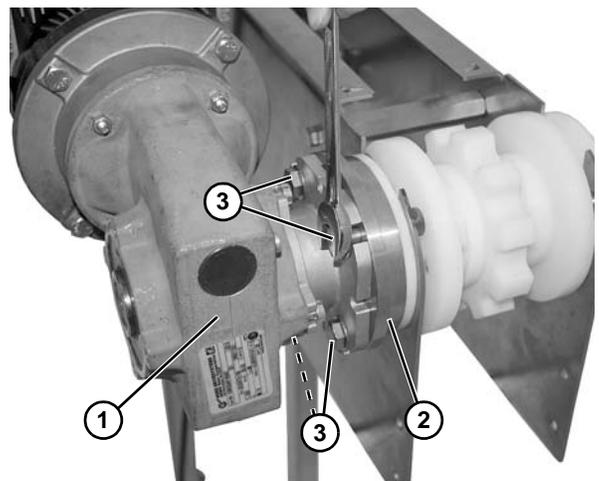

Figure 17
2. Attach the motor (**Figure 17, item 1**) and adapter (**Figure 17, item 2**) onto the drive shaft.
3. Install four bolts and washers (**Figure 17, item 3**) to secure motor to conveyor.